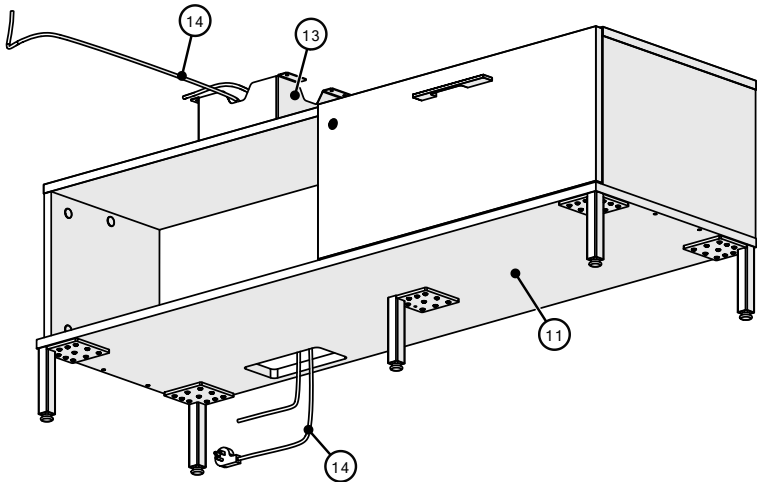

Figure 10
- 11.** Fish wires and cables through desk support metal box, (Figure 10).